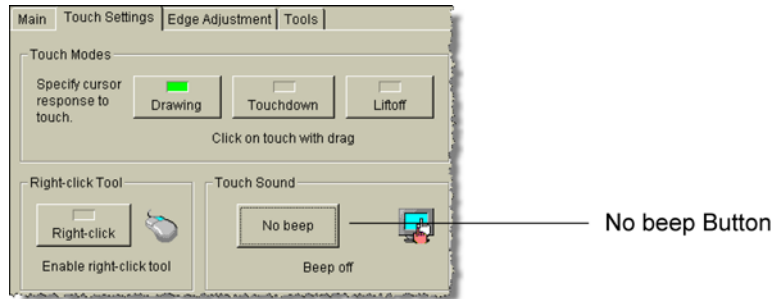

Figure 1-13. Turning the Touch Beep Off
- 4 Each time that you touch the screen, an audible beep is heard. To turn the audible click sound off, select the Touch Settings tab. Then, repeatedly click the button shown in Figure 1-13 on page 17 (in the Touch Sound area) until the button's label reads "No beep".